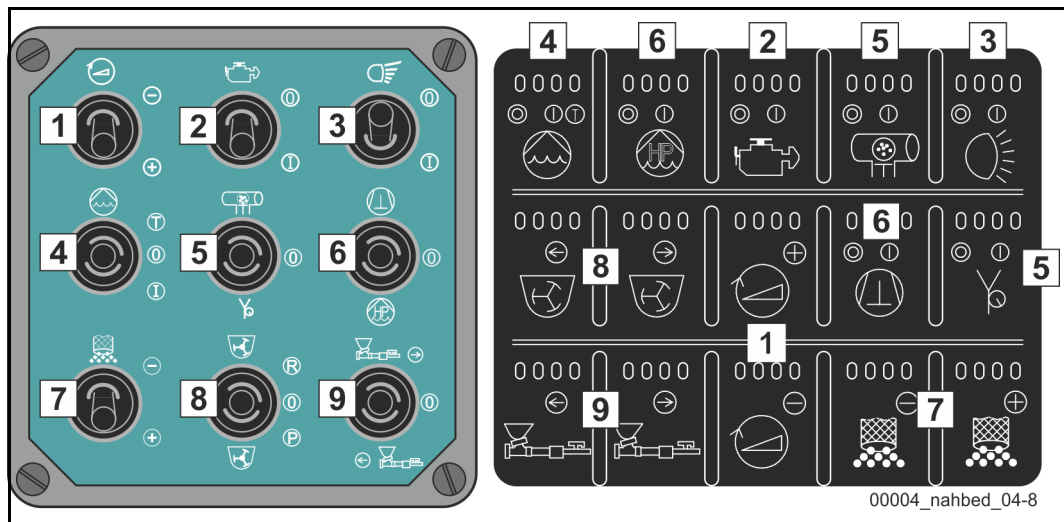

Fig. 430 Local control keypad
- If you switch on the HP pump using the local control (6)  (Fig. 430), the pump will draw its water from your machine's water case. If the trigger is not actuated, the HP pump cannot pump water to the spray lance.